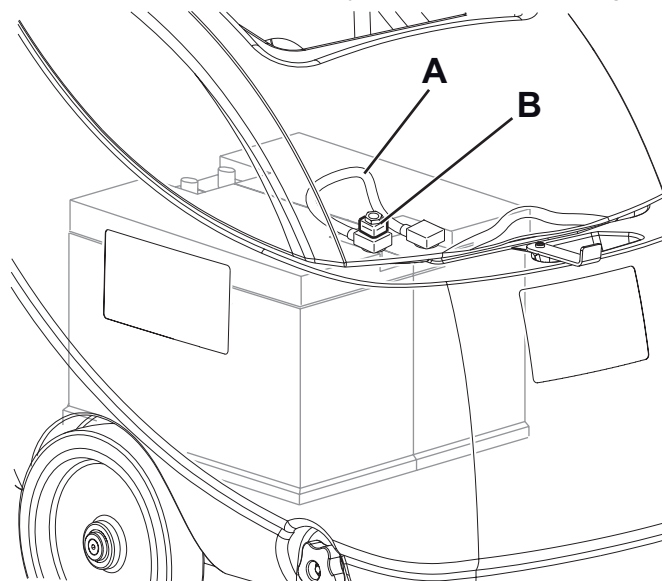

Figure 11
1. Disconnect the battery connector (29).
2. Remove the recovery tank (30) (see the procedure in Use chapter).
3. Check or replace the battery fuse F0 (125 A) (B) on the battery connection cable (A, Fig. 11).